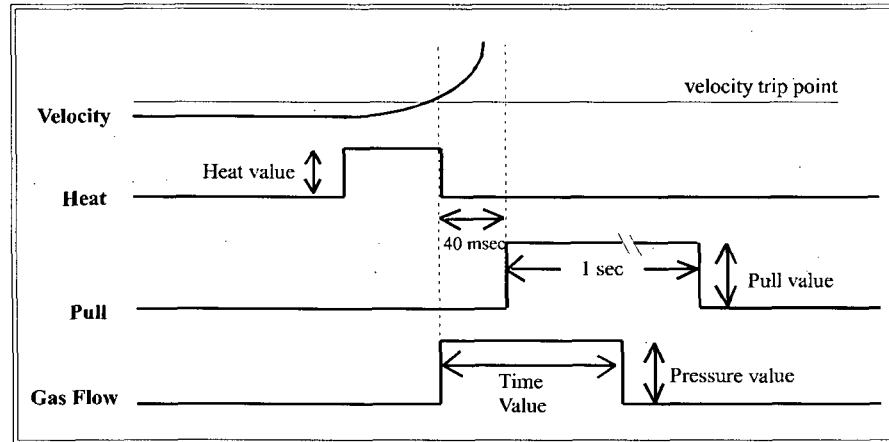

Figure 10. Pull Cycle when $TIME > 0$
4. If $TIME$ is > 0 The hard pull (if any) is executed after a 40ms delay and the air is activated for the specified $TIME$ (Figure 10).